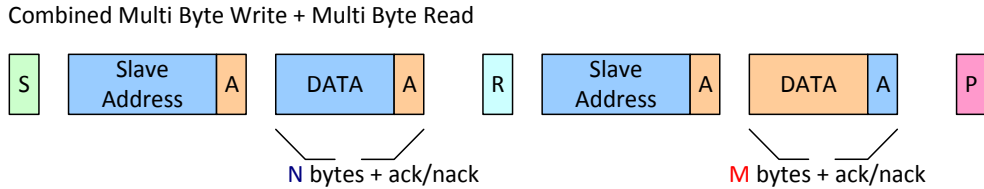

Figure 8.4-5. I2C multi transfer multi byte access with direction-change function
2. The transaction length in Figure 8.4-5 is 2.